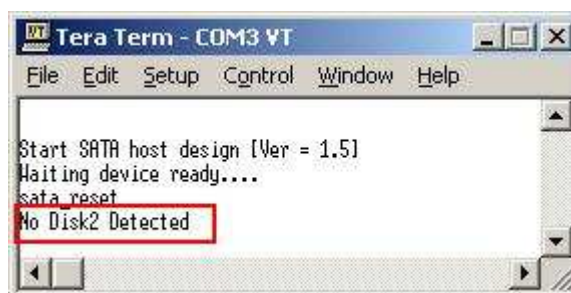

Figure 5 The example of error message when disk number#2 has problem
- If there is any disk cannot link up correctly, it'll display error message to report user that which disk number has the problem. As shown in Figure 5, "No Disk(number) Detected" will be displayed until all four HDD/SSDs be found.